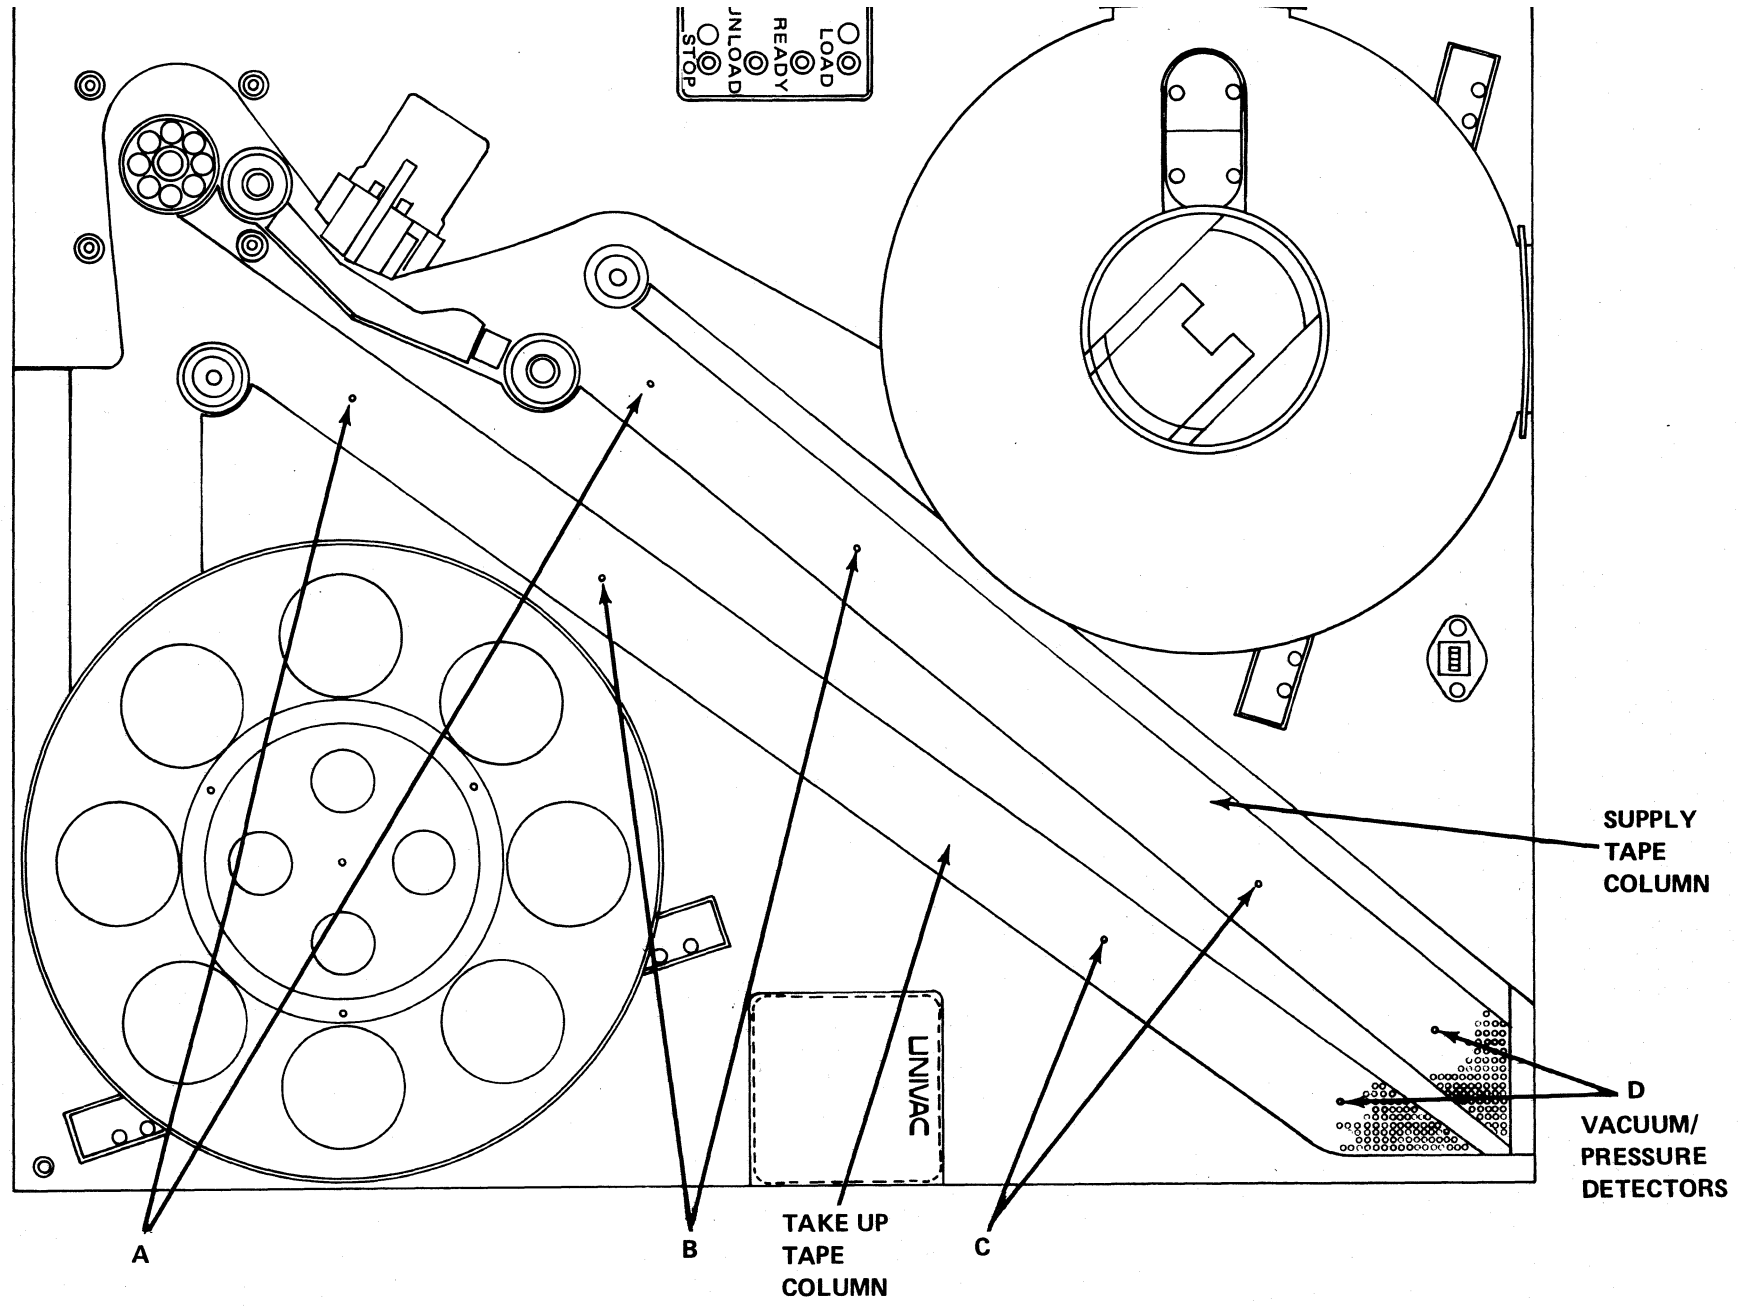

Figure 4-3. Buffer Column Sensors
i. BUFFER COLUMN SENSORS. - Each buffer column contains four vacuum/pressure sensors which are used to notify the logic circuitry of tape location within the column. The sensors are designated A, B, C, and D (figure 4-3). During normal